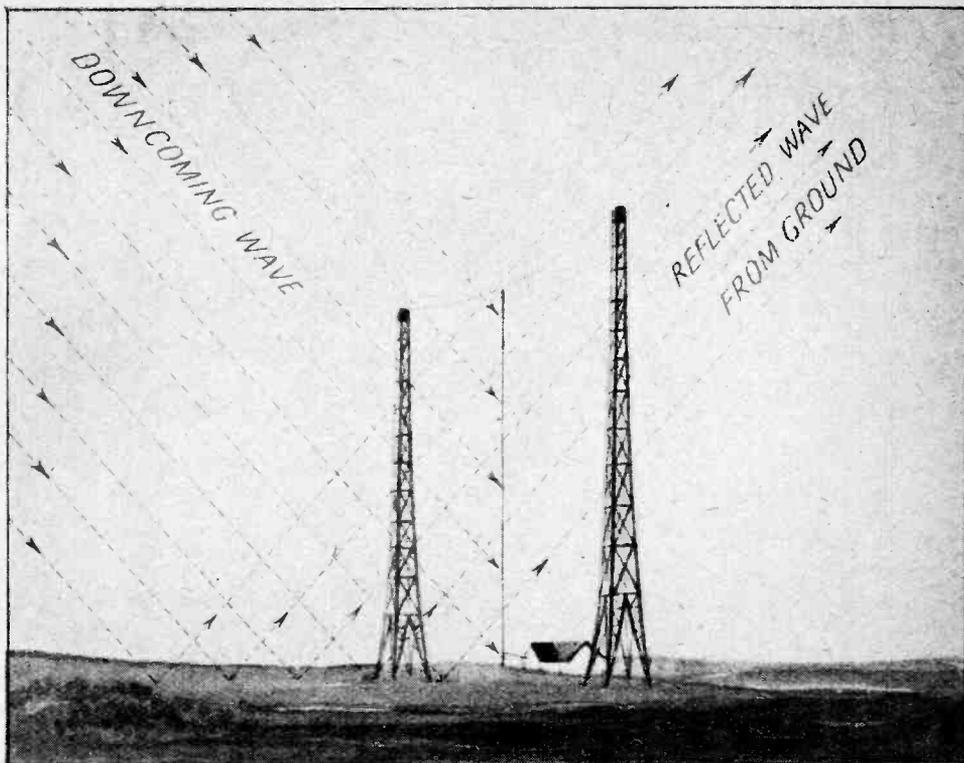

Fig. 2.—Due to the reflected wave from the ground best results in practice are obtained with a vertical aerial.
But in the second case we have to consider also the reflected wave from the ground, and it is easy to show that in this case the maximum signal is always obtained when the aerial is in the vertical position, no matter what may be the angle of descent of the wave. An examination of Fig. 2 shows that the horizontal components of the electric forces of the two waves cancel each other, so that the combined effect of the two waves is to produce a vertical electric force. We can thus
Fig. 2.—One of the high-frequency units removed from the copper box. The base is of sheet tin. On the left is the balancing condenser mounted on a piece of ebonite, while at the back is the H.F. transformer. The valve-holder is screwed to the two brass straps which hold the two 1-mfd. by-pass condensers in position. All the wiring shown is done before the unit is placed in the box.
Fig. 4.—Construction of the base of the H.F. transformer. The two upright pieces are of ebonite, and the base is of wood. This is screwed, as shown, to the sheet tin. This drawing should be examined in conjunction with Figs. 2 and 3.
Fig. 5.—(A) Drawing showing the arrangement of the parts for the first and second sections. Fig. 2 is a photograph of the second section. (B) The detector valve stage with its high-frequency transformer. A grid condenser and leak, C₇, R₁, and a by-pass condenser, C₆, are included in this section.